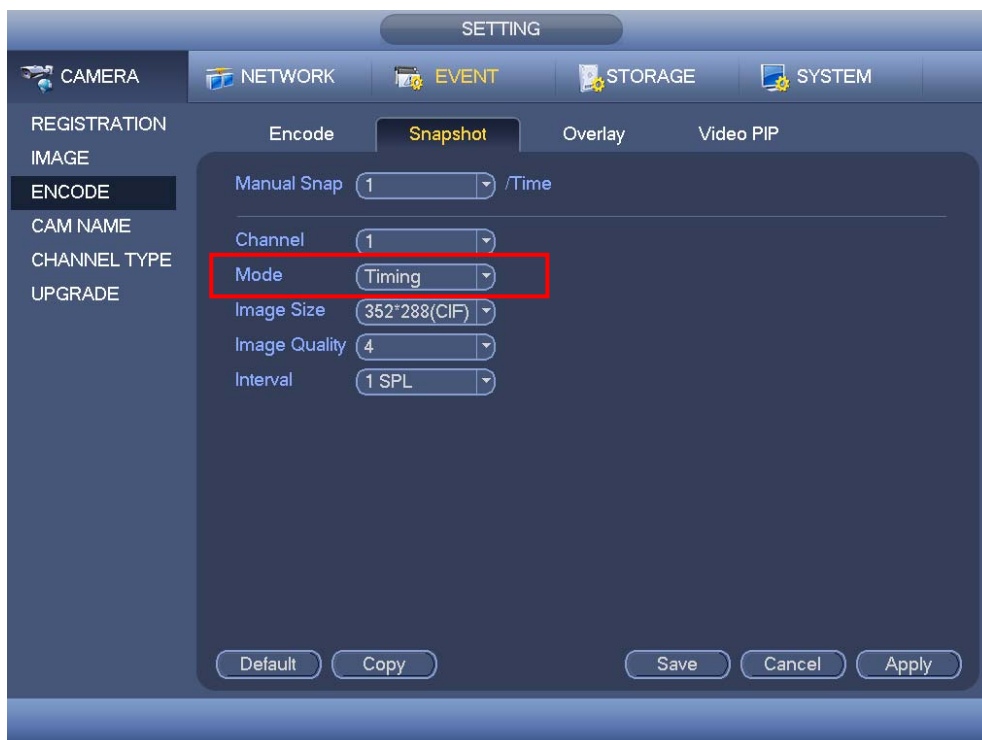

Figure 4-74
- In main menu, from Setting->Camera->Encode->Snapshot interface, here you can input snapshot mode as regular, size, quality and frequency. See Figure 4-74.